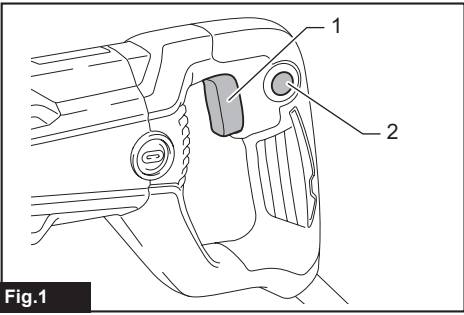

Fig.1
- **Fig.1:** 1. Switch trigger 2. Lock button (Country specific)